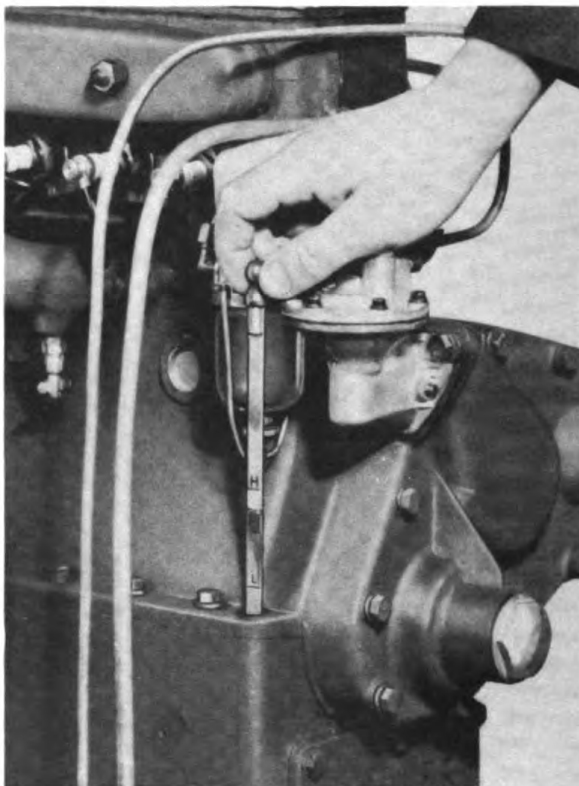

FIGURE 4
**FILL THE CRANKCASE:** The engine holds approximately seven quarts of oil and is filled through the top of the cylinder head cover marked "OIL FILL HERE". For temperatures above 32° F. use OE-S.A.E. 30 and for temperatures of 32° F. to 0° F. use OE-S.A.E. 10 -- for temperatures below 0° F. refer to EFSB-L-1000-D. Keep the oil level between the marks H and L on the oil level gauge. Plant must set level. SEE FIGURE 4